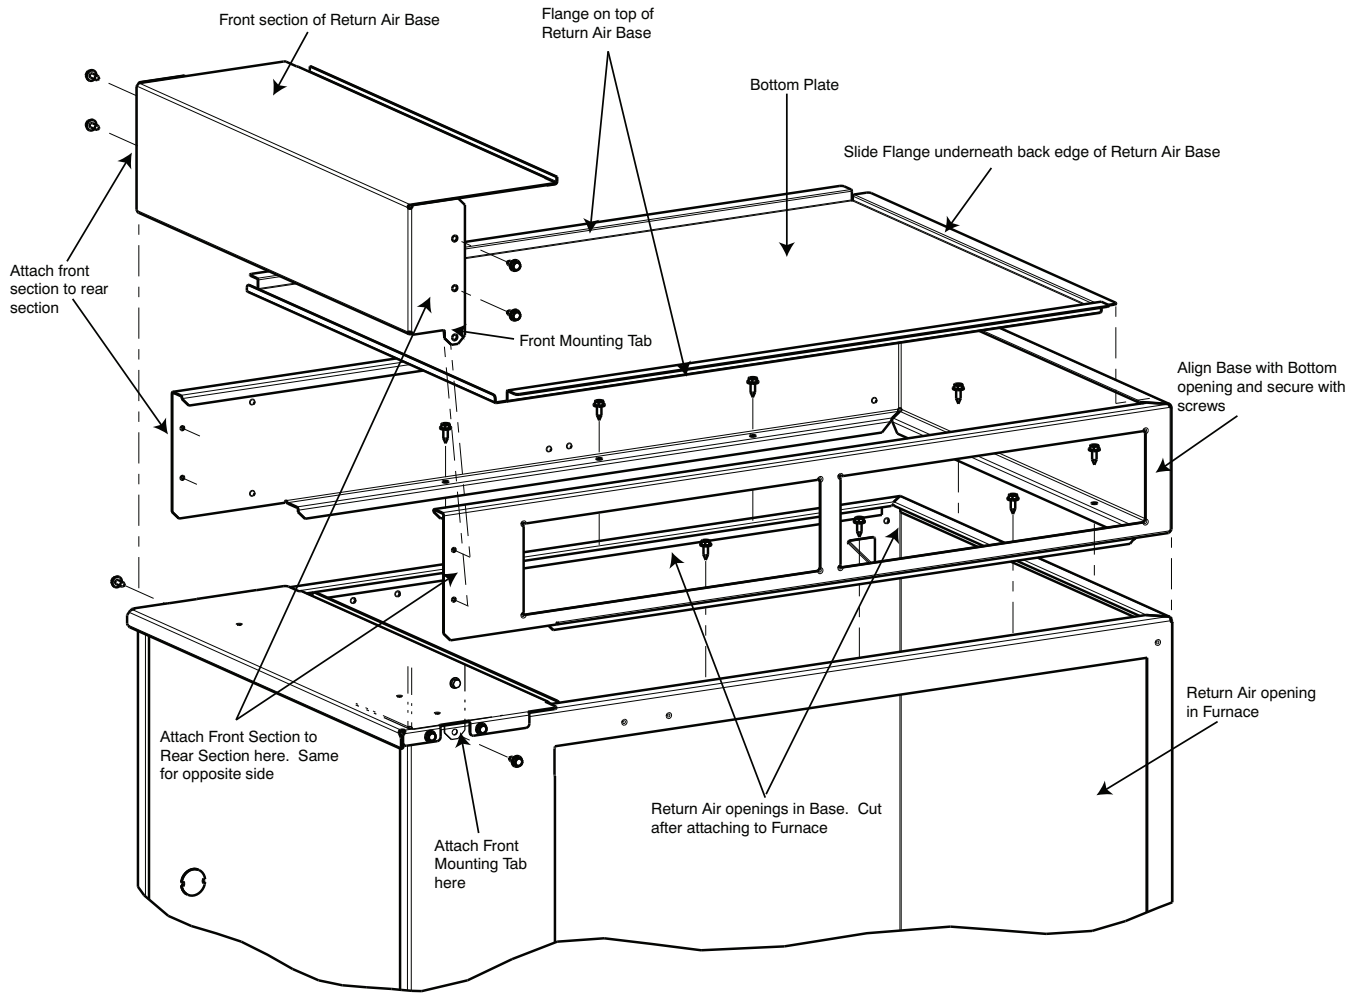

Fig. 1 - Return air base Assembly
To install the Return Air kit, perform the following steps. See Fig 1.
1. Select the side of the furnace and base to be cut out and lay the furnace on the opposite side. See Fig 1.